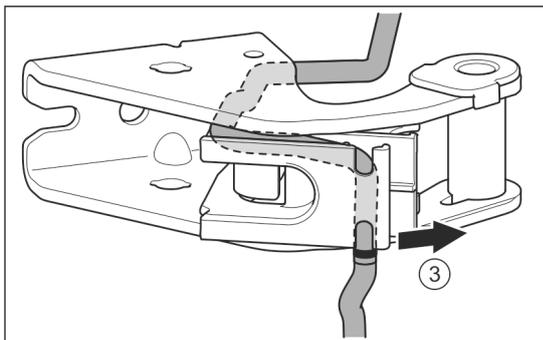

Fig. 25
- ▶ Remove the cable from the guide. Fig. 25 (3)